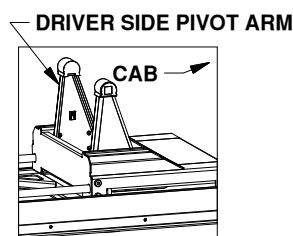
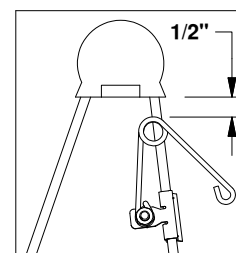

Figure D3: Base view.
Figure D4: Driver side pivot arm.
- Attach kit.** Locate the flange which will be closest to the truck cab on the driver side pivot arm, see Figure D3. The clip should be placed so that when the spring's coil is in line with the edge of the arm there will be 1/2" of clearance between the bottom of the polyurethane bushing and the top of the spring, see Figure D4. Drive the clip securely onto the flange with a hammer.